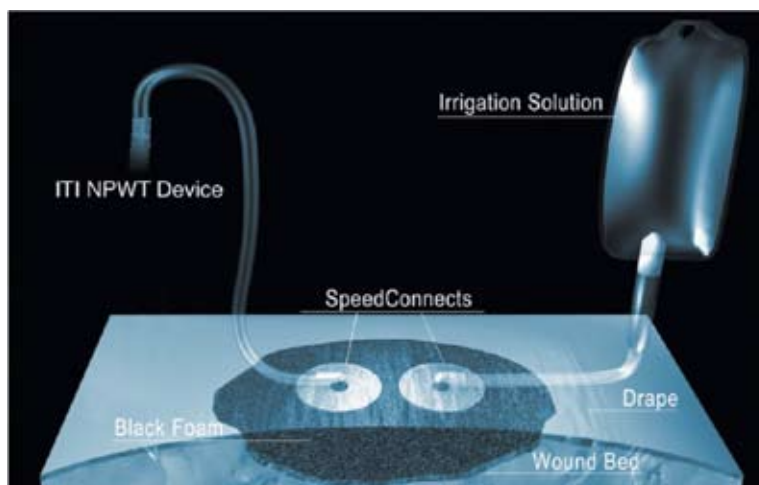

Figure 4
14. Connect the irrigation-side of the SpeedConnect™ tube with SafetyGuard to the wound Irrigation Set (see Figure 4 for a complete SVED Wound Treatment Unit set up with irrigation).